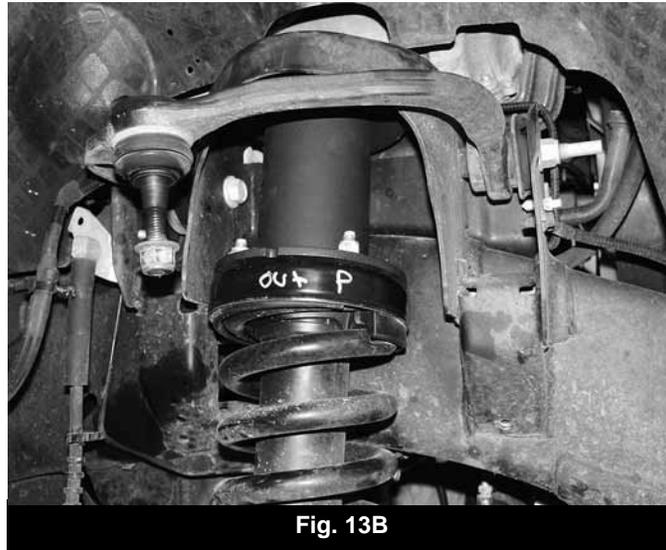

Fig. 13B
34. Install the strut and spacer assembly into the vehicle. Attach to upper mount with new 7/16" nuts and washers (bolt pack #769). Leave hardware loose at this time. (Fig 13b)